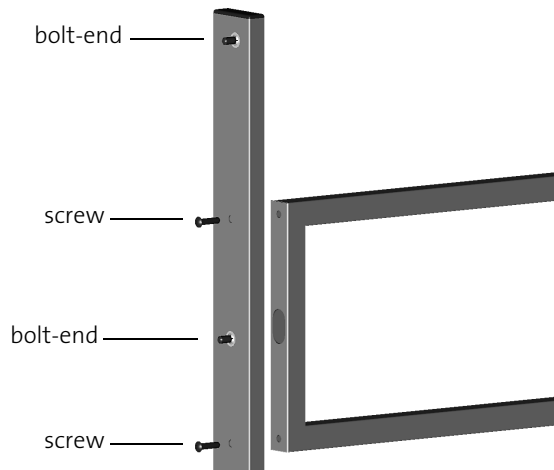
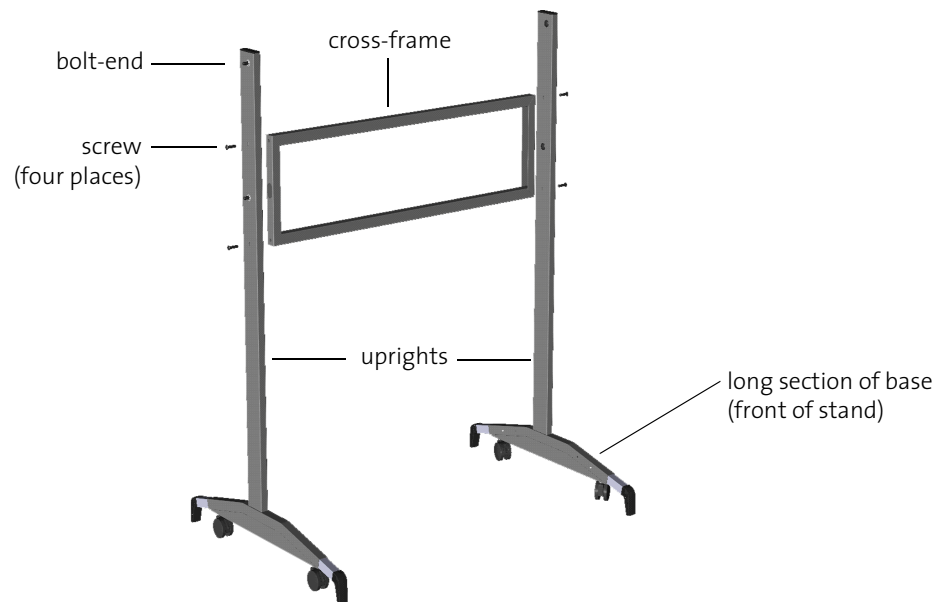

Figure 1-2 Attaching the crossframe
Figure 1-3 Crossframe and uprights
- Using the Allen wrench, attach the rectangular cross-frame to the two uprights with the four screws provided, ensuring that the two bolt-ends on each upright are facing outward (Figure 1-2). To distinguish the front of the stand from the back, note that the bases of the uprights are longer at the front (Figure 1-3).